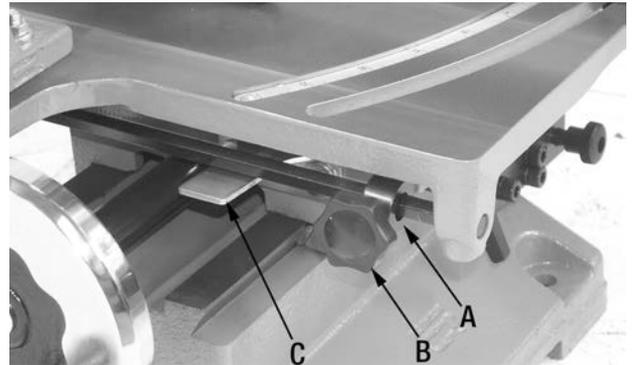

FIGURE 18
The longitudinal travel range of the sliding table can be adjusted by adjusting the position of the right and left side table stops (A) Fig.18. Loosen the corresponding lock knob (B) and move the stop at the desired location and retighten lock knob. The table travel will stop once the table stop reaches the stop plate (C).